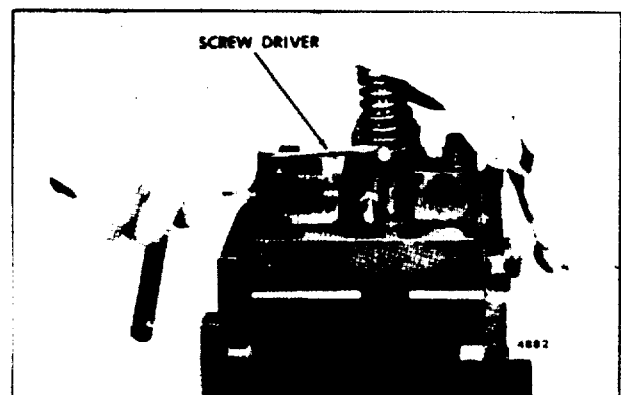

Fig. 11. Removing Injector Follower Stop Pin
2. Compress the follower spring. Then raise the spring above the stop pin with a screw driver and withdraw the pin (Fig. 11). Allow the spring to rise gradually.